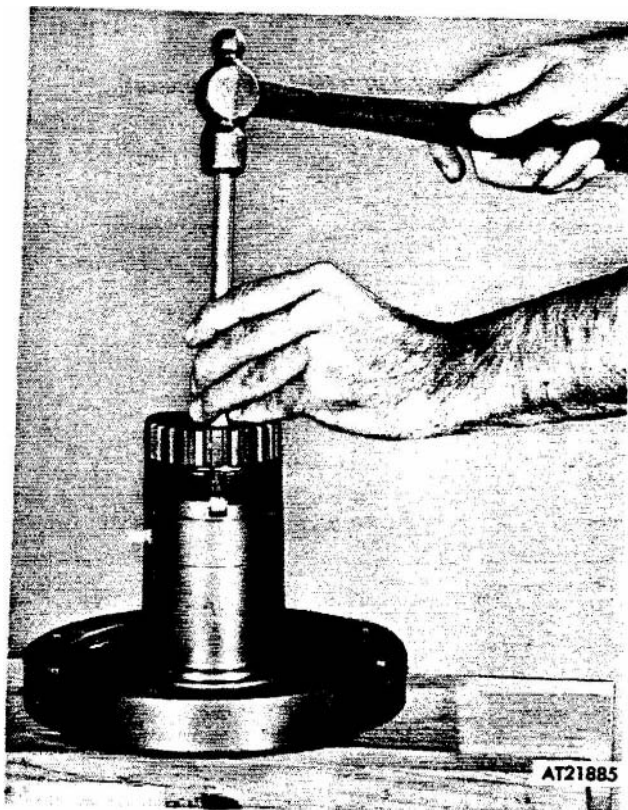

Figure 2-232. F_L bushing removal
(27) Turn spindle over and support one edge on a wooden block. Using a soft face drift tap phenolic bushing around its periphery until free of spindle (fig 2-232).